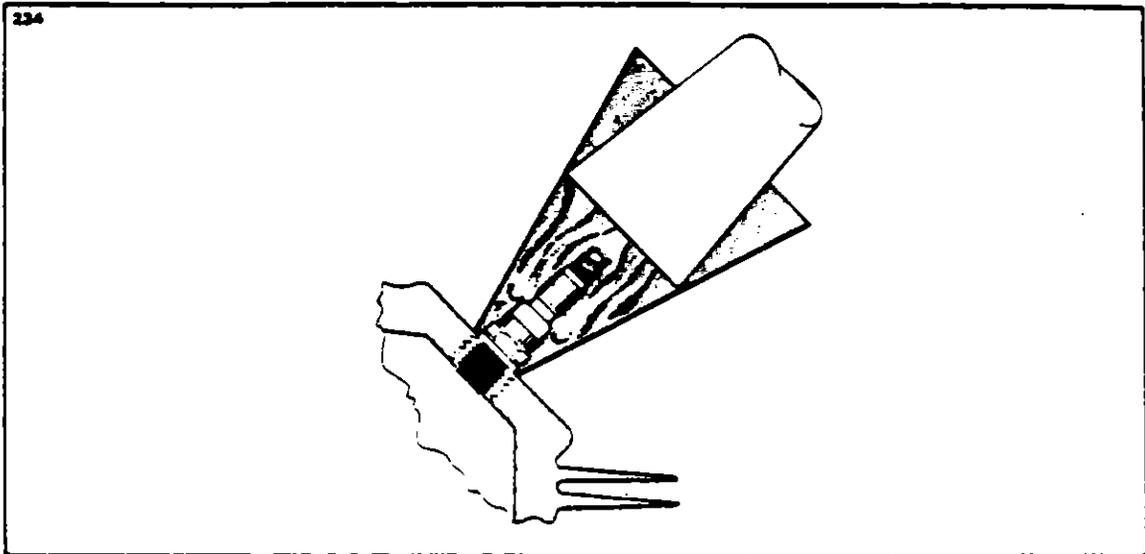

FIGURE 7A-23. REMOVING SEIZED SPARK PLUGS
- d. Removal of seized spark plugs in the cylinder may be accomplished by application of liquid carbon dioxide by a Conical metal funnel adapter with a hole at the apex just large enough to accommodate the funnel of a CO₂ bottle. (Refer to Figure 7A-23.) When a seized spark plug cannot be removed by normal means, the funnel adapter is placed over and around the spark plug. Place the funnel of the CO₂ bottle inside the funnel adapter and release the carbon dioxide to chill and contract the spark plug. Break the spark plug loose with a wrench. A warm cylinder head at the time the carbon dioxide is applied will aid in the removal of an excessively seized plug.